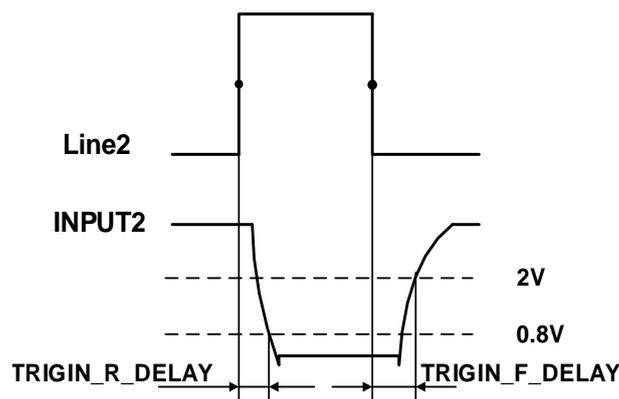

Figure 7-23 Parameter of Line2 input circuit
- Input rising time delay: <math><2\mu\text{s}</math> (0°C~45°C), parameter description as shown in Figure 7-23
- Input falling time delay: <math><2\mu\text{s}</math> (0°C~45°C), parameter description as shown in Figure 7-23